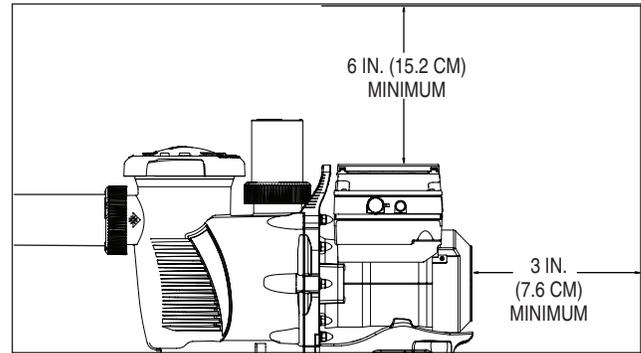

Figure 1: Pump Rear and Vertical Clearance
6. Install the pump with a rear clearance of at least 3 inches (7.6 cm) so that the motor can be removed easily for maintenance and repair. See **Figure 1**.